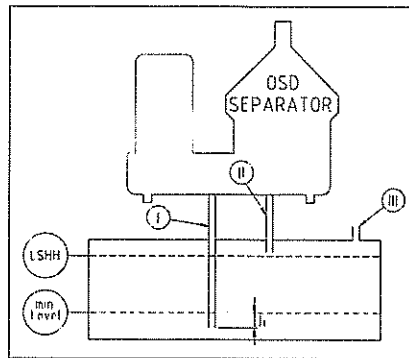

Fig. 76
- Discharges I, and III must be configured as illustrated in Fig. 76).